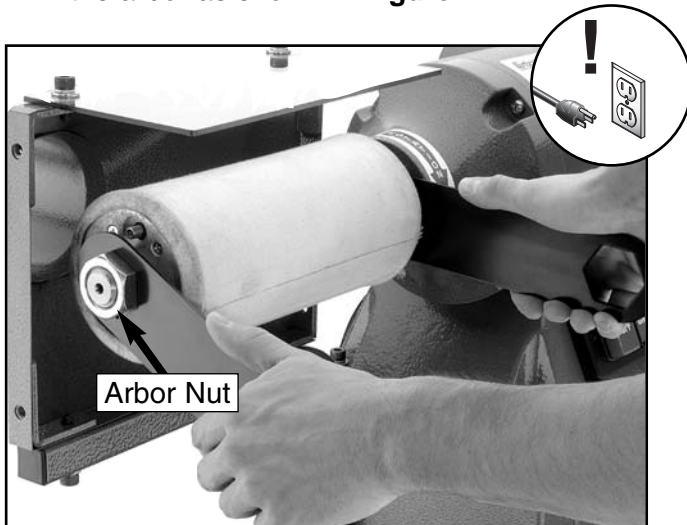

Figure 12. Tightening the sanding drum arbor nut.
3. Using the two arbor wrenches, tighten the arbor nut to secure the sanding drum onto the arbor as shown in **Figure 12**.